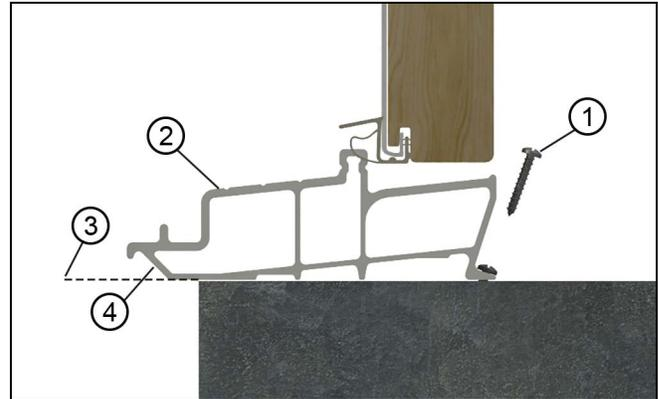

Figure 19 2012 Swinging door sill
**Securing the pre-2011 sill:** At the center of the oak sill pre-drill a 3/16" hole, without penetrating the subfloor, vertically through the oak sill liner and sill. Secure the oak sill liner to the subfloor with a #10 x 3" sheet metal screw. For masonry applications, pre-drill a 3/16" x 3" concrete anchor 3 1/2" deep hole through oak liner and into concrete. Fasten with a 3/16" x 3" concrete anchor. See Figure 19.
applications, pre-drill 3/16" x 1" deep holes through the pre-drilled holes in the sill lip and into the concrete. Fasten with #8 x 1" pan head concrete anchors. See Figure 19.